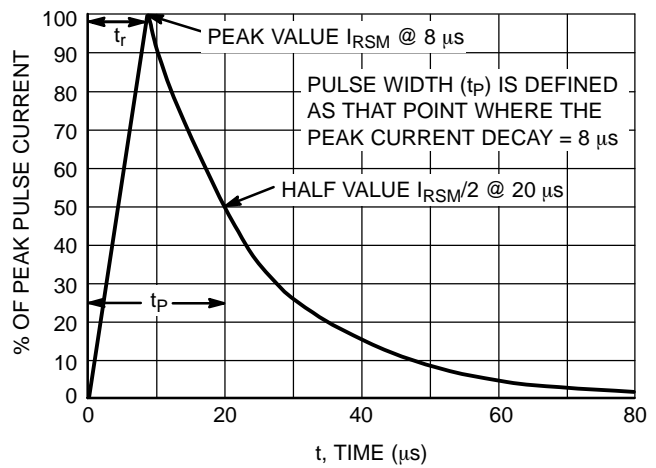

Figure 2. 8 x 20 μs Pulse Waveform
1. Non-repetitive current pulse per Figure 2
5. Surge current waveform per Figure 2